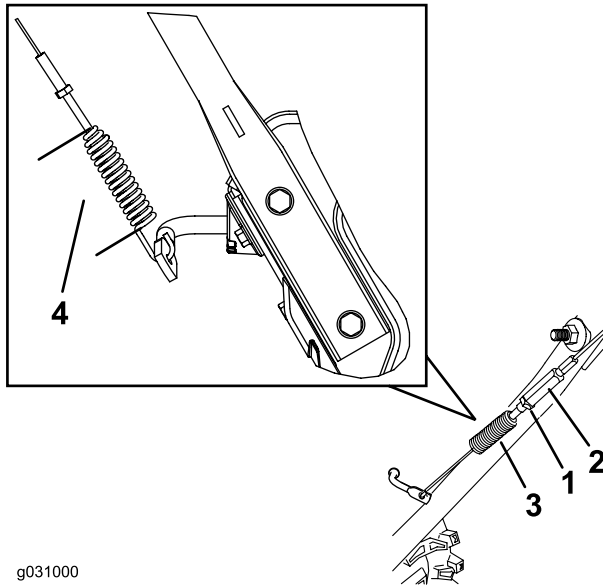

Figure 35
- Loosen or tighten the turnbuckle to adjust the spring length to 7 cm (2-3/4 inches) as shown in Figure 35.